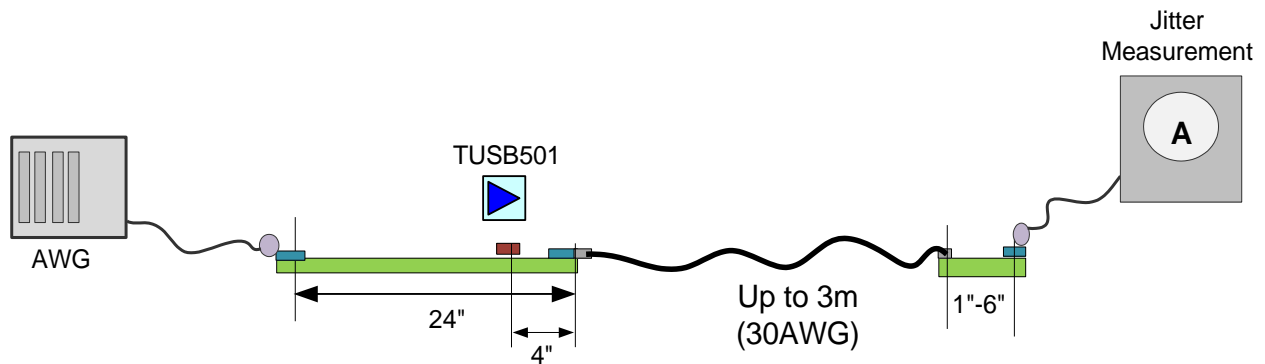

Figure 1. Jitter Measurement Setup
- (1) Includes R_J at 10^{-12} .
- (2) Measured at the ends of reference channel in Figure 1 with K28.5 pattern, $V_{ID} = 1000 \text{ mV}_{pp}$, 5 Gbps, -3.5 dB de-emphasis from source.
- (3) UI = 200 ps.
- (4) R_J calculated as 14.069 times the RMS random jitter for 10^{-12} BER.